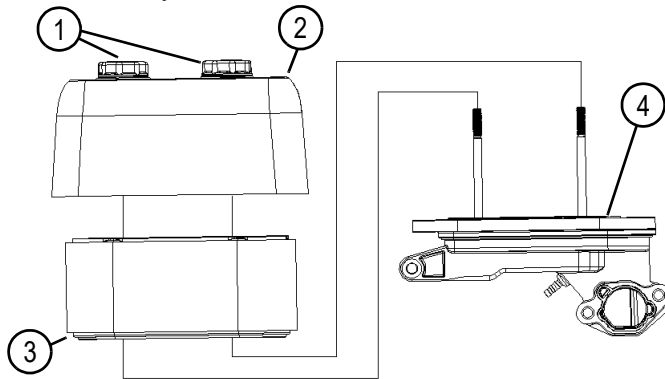

Figure 3-3: Air Filter
1. See Figure 3-3. Remove and retain the nuts and remove the air filter cover.